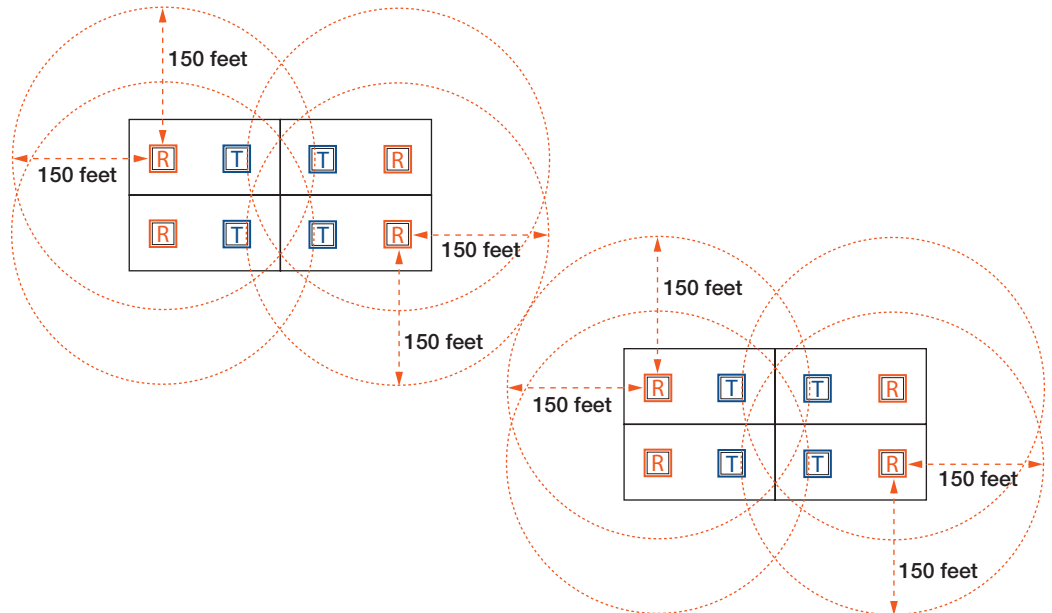

Figure 16. Application with Groups of eLink 100 Transmitter-Receiver Pairs
- Up to four transmitter units can operate in the same room or environment. If a maximum of four transmitters is reached, the next group of units should be separated to prevent interference. Ensure that there is at least a 150 foot (45 meter) radius around the outermost units in each group (see figure 16).